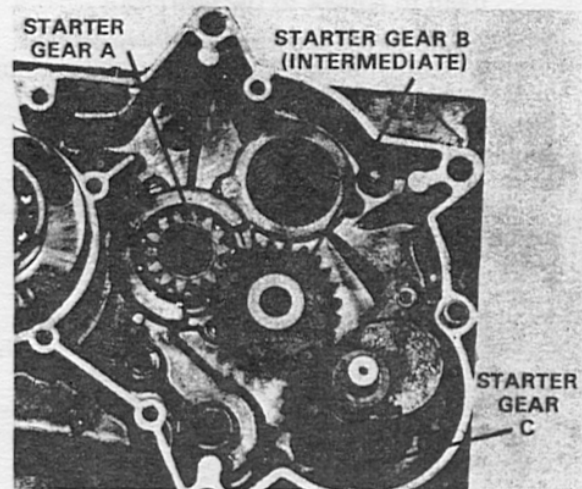

Fig. 13
47. Remove the kick starter intermediate gear which remains in the crankcase half after the transmission shaft assembly has been withdrawn. Note that there is a spacer above and below this gear. Keep these spacers with this gear to facilitate reinstallation. (Figure 13)
3. Reinstall the kick starter intermediate gear positioning the spacers above and below the gear. These spacers are identical and can be identified since the hole in the spacer is the same size as the hole in the gear. Place it in mesh with the kick idler gear and the kick starter shaft gear and oil the gears. (Figure 13)
4. We are now ready to install the transmission shaft assemblies and the shift drum-shift fork assembly. Before doing so, familiarize yourself with the positions into which the various shafts and the shift drum will be inserted by studying Figure 13.